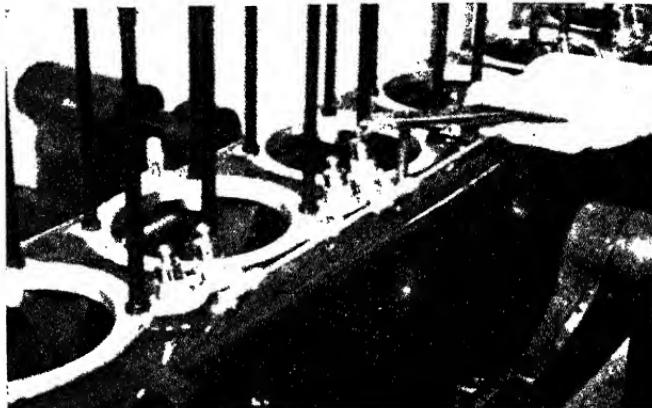

FIG. 13.—Removing tappets from crankcase.
*Tappets and Guides.*—Remove the nuts holding the tappets in place and pull the assembly out. It is possible to remove both the tappet and the guide together as the roller will clear the guide hole in the case (see Fig. 13).